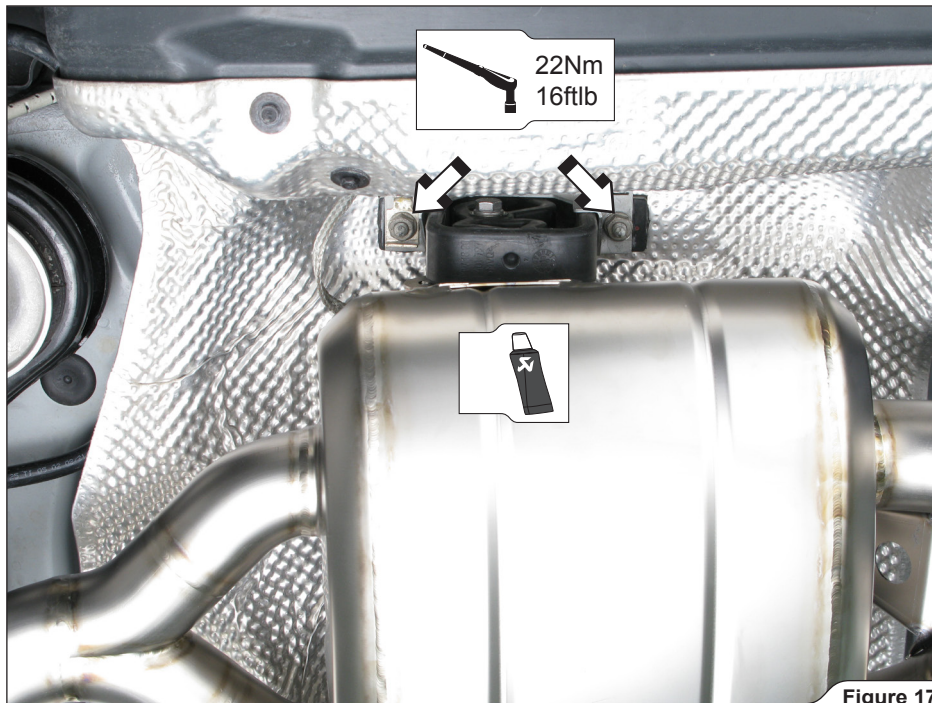

Figure 17
9. **For Slip-On and Evolution:** tighten the stock muffler brackets and ground wires to the vehicle chassis (**Figure 17**).